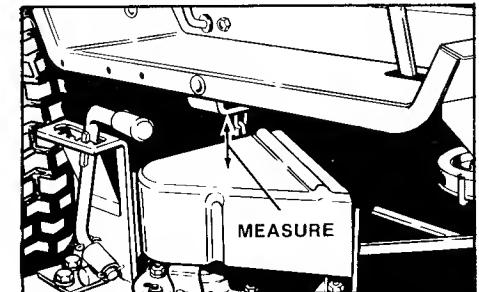

Figure 46. Measurement - 42" Mower
2. Measure the distance between top of pulley cover and bottom of upstop bracket (figure 46). If small lift lever (E, figure 7) is used, the measurement should be 2". If large lift lever (B, figure 7) is used, the measurement should be 1 13/16".